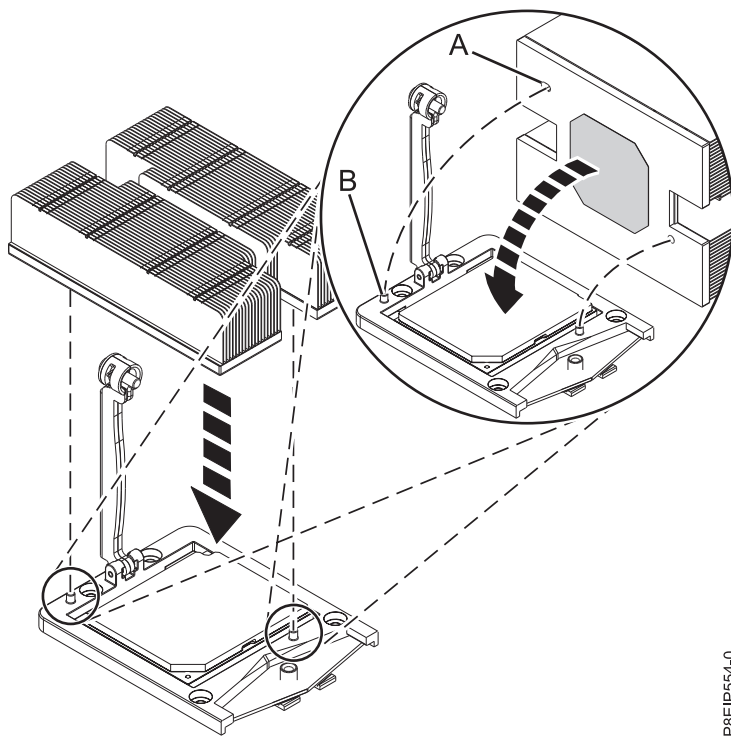

Figure 71. Installing the heat sink
5. Install the new supplied heat sink that is provided in the FRU kit. The TIM is pre-applied to the heat sink. Carefully lower the heat sink over the system processor module, ensuring that the holes in the heat sink (A) align with the two guide pins (B) on the socket, as shown in Figure 71.